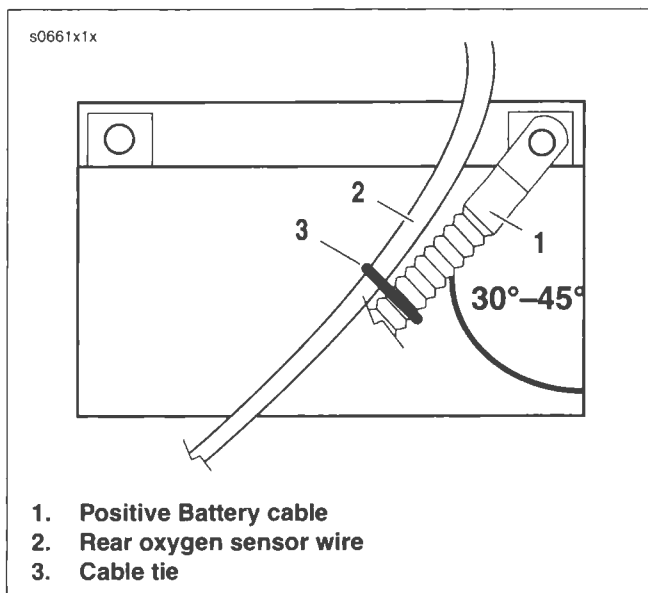

Figure 1-9. Positive Battery Cable Routing
1. See Figure 1-9. Place the fully charged battery into the battery pad, terminal side facing front wheel.
2. See Figure 1-9. Verify that the positive battery cable (1) from the starter is routed at the angle shown. Verify positive battery cable and rear oxygen sensor wire (2) are parallel and do not cross.